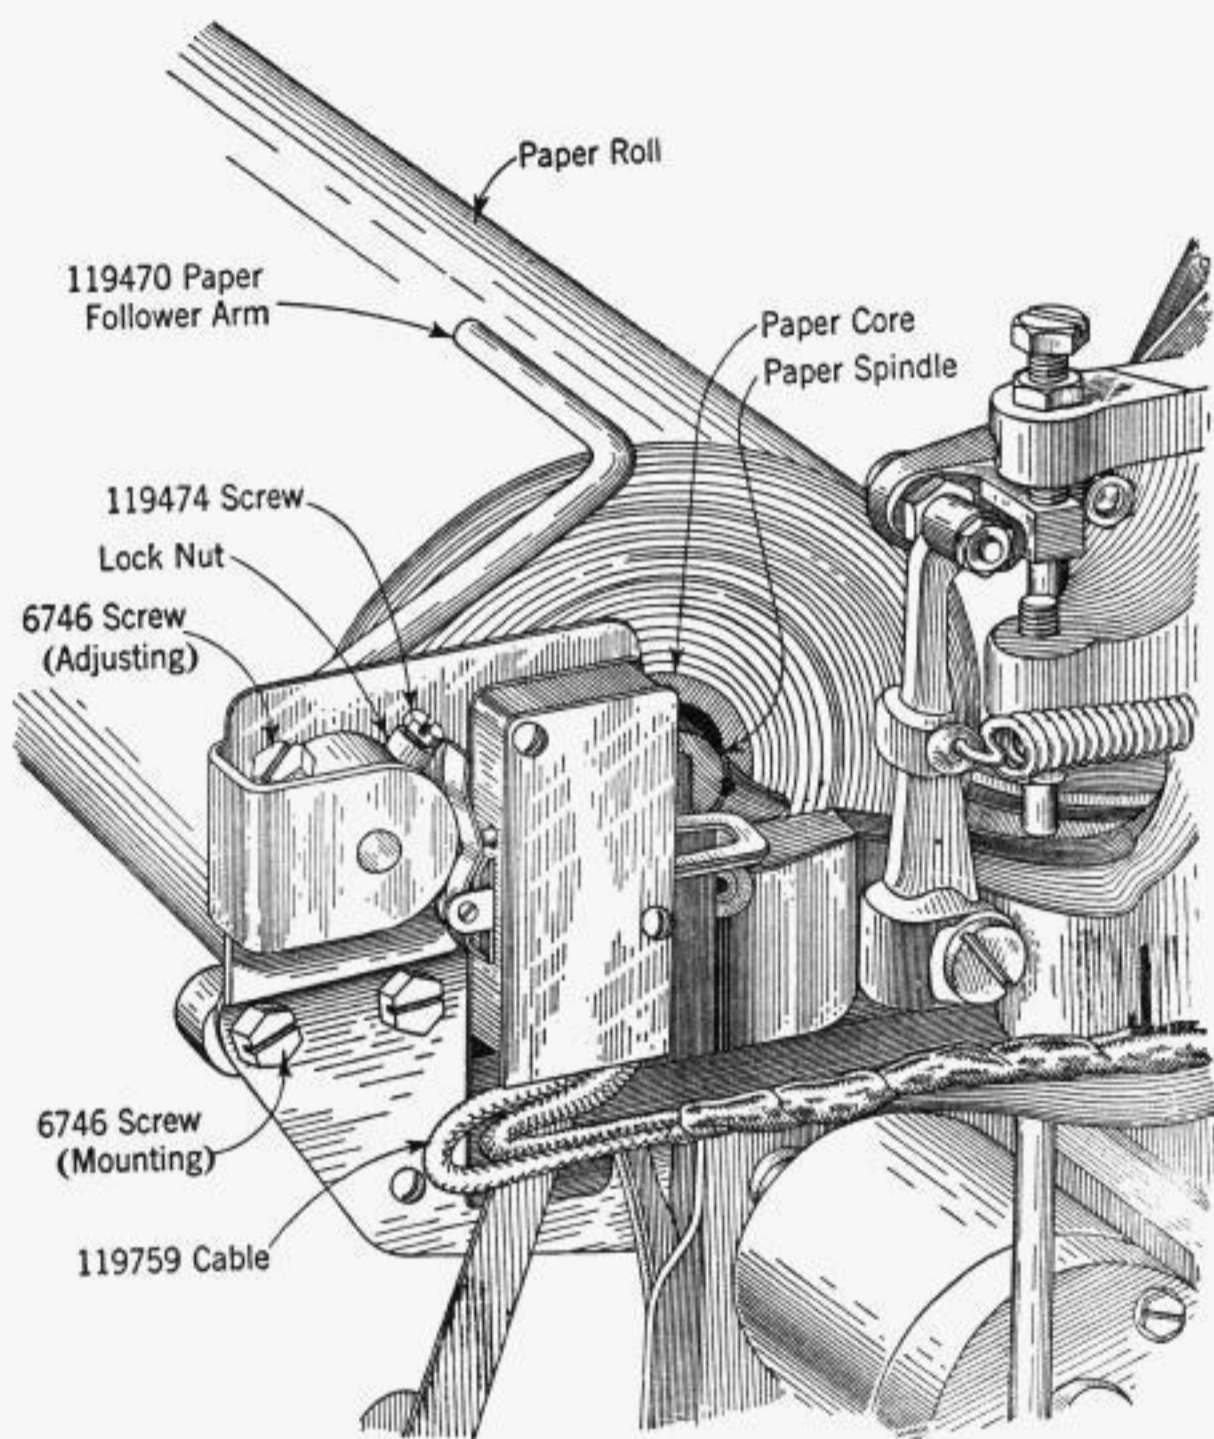

Fig. 2
2.01 Mount the TP119471 switch assembly on the TP74410 left teletypewriter frame by means of the two TP6746 screws and two TP2191 lock washers furnished using the two rear TP6-40 tapped holes as shown on Fig. 2.
3. ADJUSTMENTS (FIG. 2)